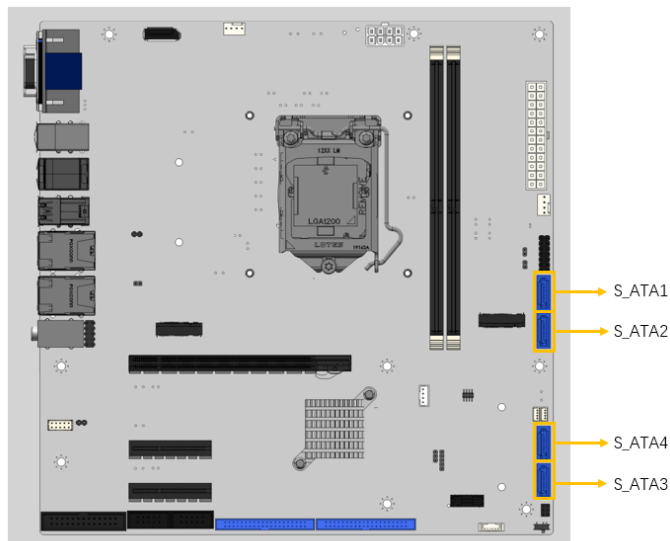

Figure 3-28: SATA 6Gb/s Connector Locations
- CN Location:** See Figure 3-28